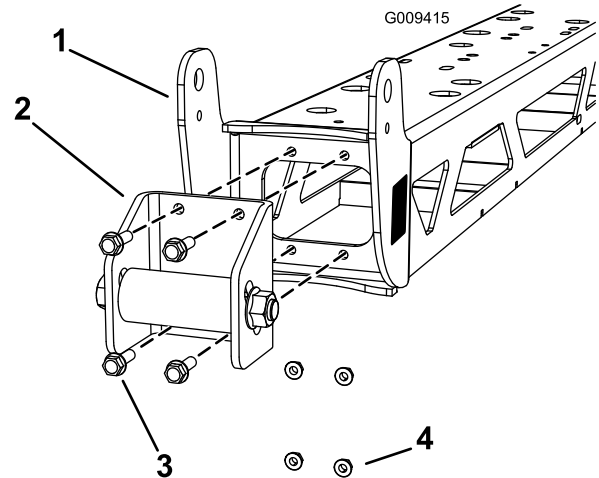

Figure 1
2. Remove the 4 bolts (5/16 x 1 inch) and nuts (5/16 inch) that secure the stops to the center boom frame as shown in (Figure 1).